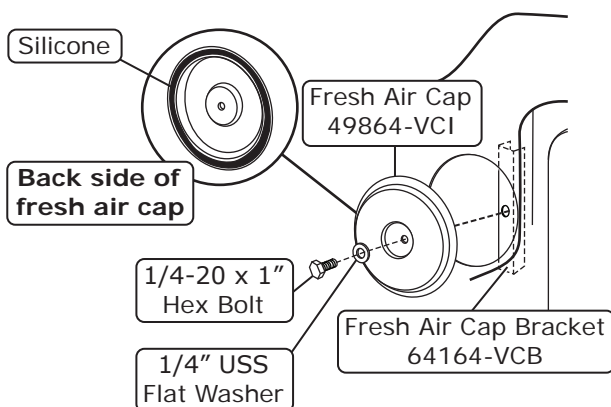

Figure 1
1. Apply a 1/4" bead of silicone around the back side of the fresh air cap as shown in Figure 1, below.
2. Attach the fresh air cap to the firewall using a 1/4-20 x 1" hex bolt and 1/4" washer (See Figure 1, below).
1. Install S-clips onto the defrost duct hose adapters, and attach them to the OEM defrost ducts as shown in Figure 1, below.